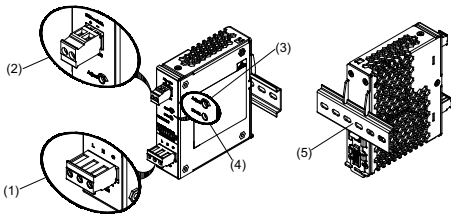
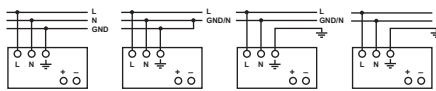

Figure 1
Figure 6
2. Device description (Fig. 1)
5.1. Input connection (Fig. 1 (1), Fig. 6)
Use L, N and GND connections of input terminal connector (see Fig. 1 (1)) to establish the 100-240 VAC connection.
5.2. Output connection (Fig. 1 (2))
Use the "+" and "-" screw connections to establish the 24 VDC connection. The output provides 24 VDC. The output voltage can be adjusted from 24 to 28 VDC on the potentiometer. The green LED DC OK displays correct function of the output (Fig. 1 (4)). The device has a short circuit and overload protection and an overvoltage protection limited to 35 VDC.